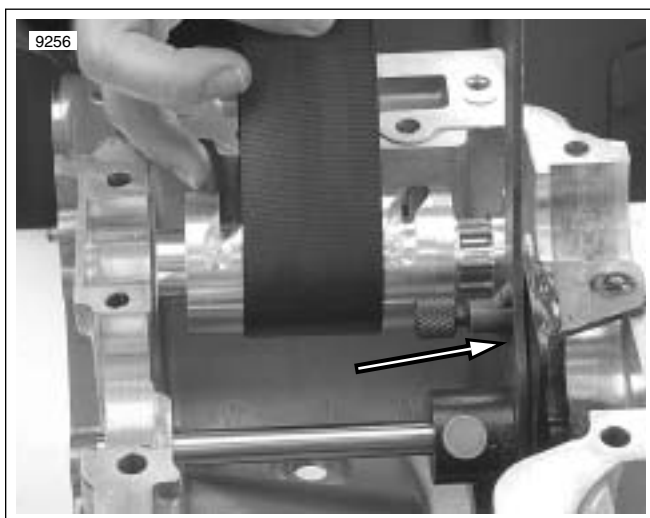

Figure 3-128. Position Shift Drum
1. See Figure 3-128. Use SHIFT MECHANISM/DENTENT RETRACTOR (HD-45339) in reverse of disassembly to compress shifter gliding part and to compress shifting detent arm and spring. Using the nylon strap from the SHIFT MECHANISM/DETENT RETRACTOR (HD-45339), lower the shift drum in place and insert the shift drum shaft.